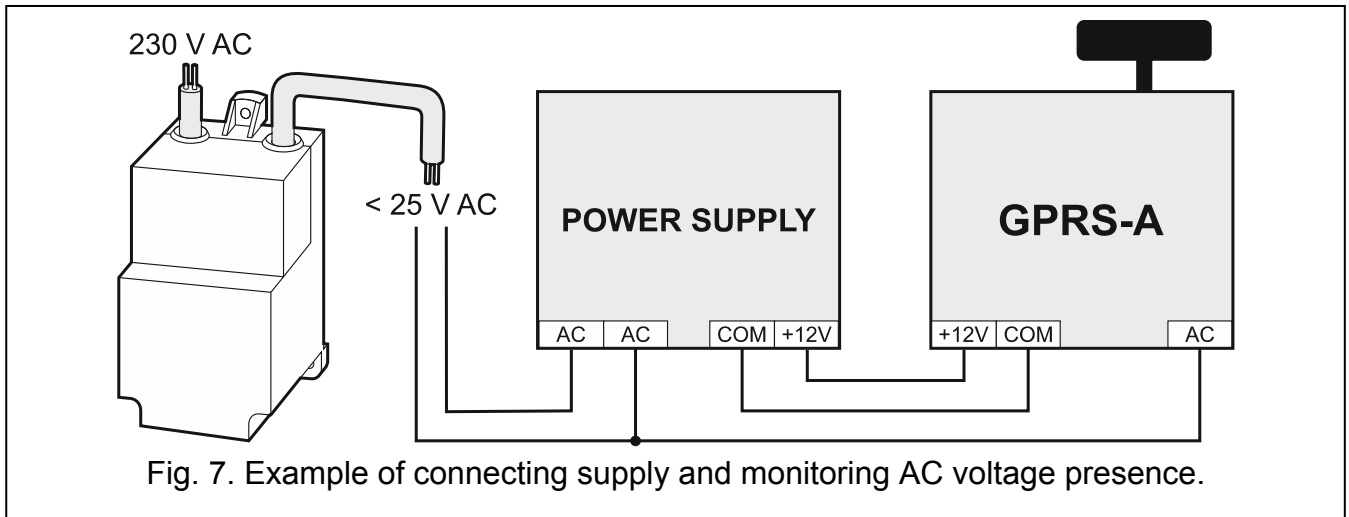

Fig. 7. Example of connecting supply and monitoring AC voltage presence.
2. If the module is to monitor the presence of AC voltage fed into the device from which the module is supplied, the wire from the secondary winding of transformer from which that device is supplied is to be connected to the AC input terminal (see Fig. 7).